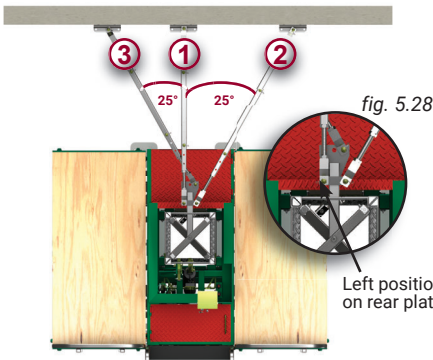

fig. 5.27
- 1- Pin a mast tie to the left position on the rear plate (fig. 5.28) of the mast tie attachment assembly and attach it at a **straight angle** ("1", in fig. 5.27) to the face of the work. Using the threaded rod, adjust its length until the mast is perfectly plumb on its front axis. The tie adjustment rod has a maximum extension of 6" (15,5 cm)
- 2- Install the first angle mast tie ("2", in fig. 5.27) at the right position on the rear plate of the mast tie attachment assembly. Attach the mast tie to the face of the work at an angle of 25 degrees from the straight angle mast tie installed in step 1. Using the threaded rod, adjust its length until the mast is perfectly plumb on its side axis.
- 3- Pin the second angle mast tie ("3", in fig. 5.27) to the right position on the front plate. Attach the mast tie to the face of the work at an angle of 25 degrees from the straight angle mast tie installed in step 1.